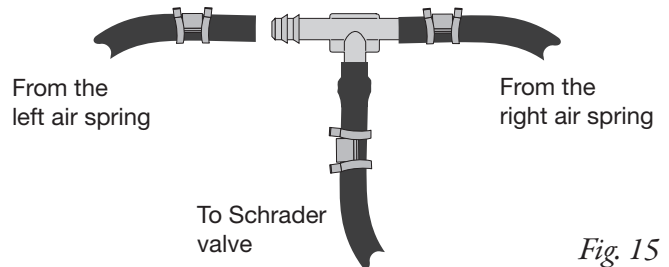
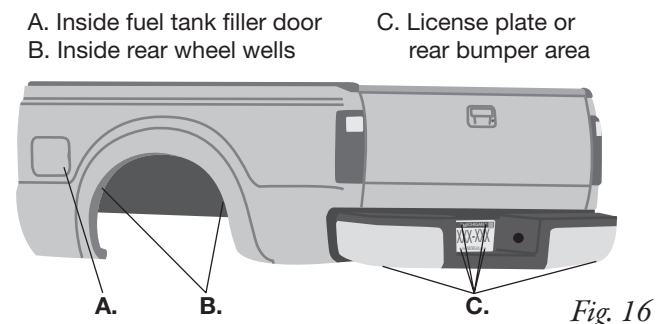

Fig. 15
Fig. 16
4. Use this procedure (Fig. 15) for all air line connections:
- a. Slide the air line clamp (E) onto the air line.
5. Select a location for the Schrader valve (N), ensuring that the valve will be protected and accessible with an air hose (Fig. 16). Drill a 5/16" (8mm) hole, if necessary. Determine and cut adequate length of air line to reach from the tee to the Schrader valve or from the air springs to the valve if using a dual-path installation.